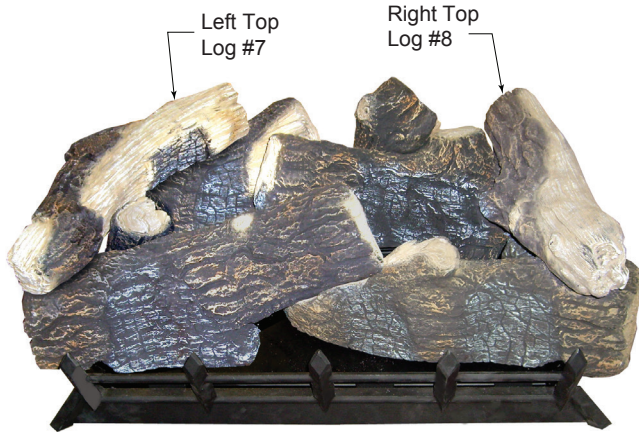

Figure 30. Place Right Top Log #8
7. Place left top log (#7) on left rear log (#4) and left front log (#5) using locating grooves on bottom of #7 and locating blocks on logs #4 and #5. Figure 30
8. Place right top log (#8) onto right rear (#3) and right front (#2) logs using locator on bottom of right top log. Figure 30